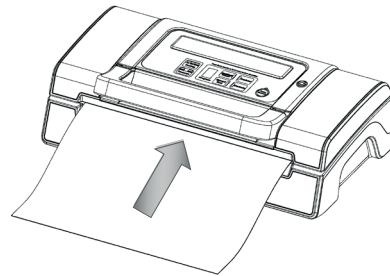

Fig. 8
8. Press the handle to open the cover and take the bag out of the machine, the bag is finished and ready to be used. (Fig.8)